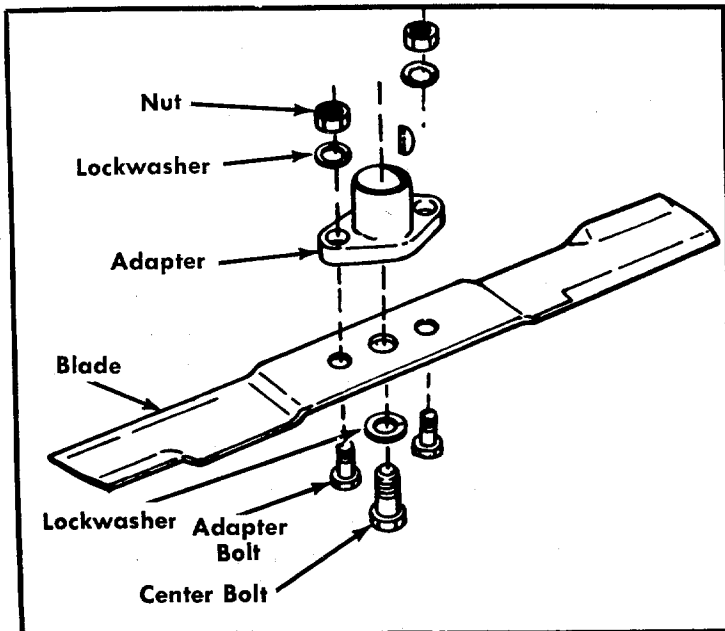

FIGURE 17. BLADE REMOVAL
Step 2. Remove the blade by removing the hex head cap screw in the center of the blade. Hold the blade with one hand and using a $\frac{1}{2}$ " open end, box or adjustable wrench, remove the bolt. See figure 17.
Step 2. Remove the blade by removing the hex head cap screw in the center of the blade. Hold the blade with one hand and using a 1/2" open end, box or adjustable wrench, remove the nut. See figure 17.
Step 5. Lubricate all lubrication points indicated in figure 17; then wipe the entire machine with an oiled rag in order to protect the surfaces.